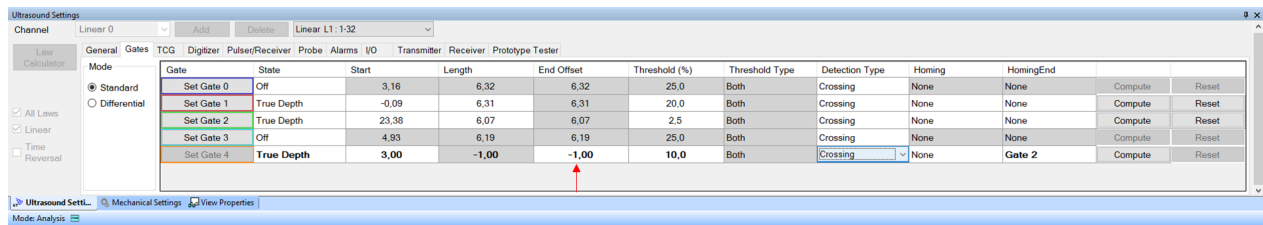

Figure 14: Configuring Homing End gate parameters in the Gates page
- In Figure 14, the user requests the Homing End Gate (Gate 4) to end 1,00 mm (in True Depth) before the position of the triggering signal in the reference gate (Gate 2)